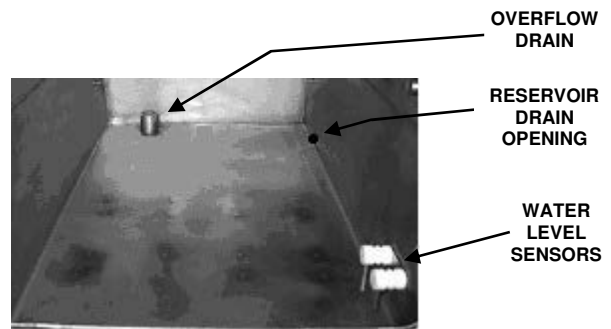

Figure 3-2 Inspecting
3. Remove the door gasket assembly, pan racks, backplate, fan guard, and KleanShield™ and make sure all surfaces are clean and drain openings and the water level sensors are clean and free of any residue or debris (See Figure 3-2).